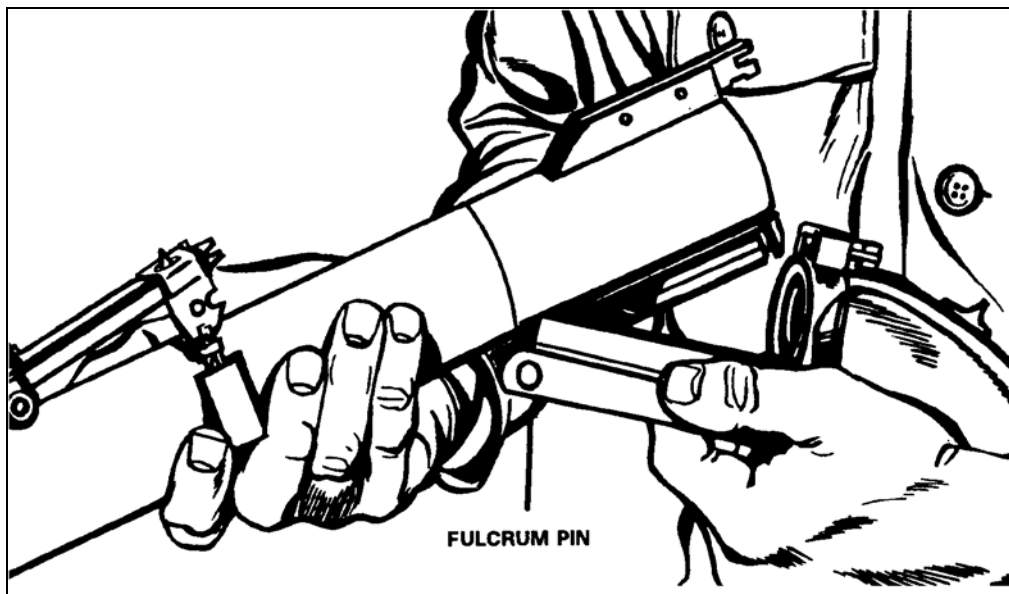

Figure A-10. Removing or installing the barrel group.
c. Press the barrel locking latch lever to the right and pivot the barrel down until it stops. Slide the barrel off the fulcrum pin and remove it from the receiver (Figure A-10, page A-8). Do not remove the rear sight from the barrel.